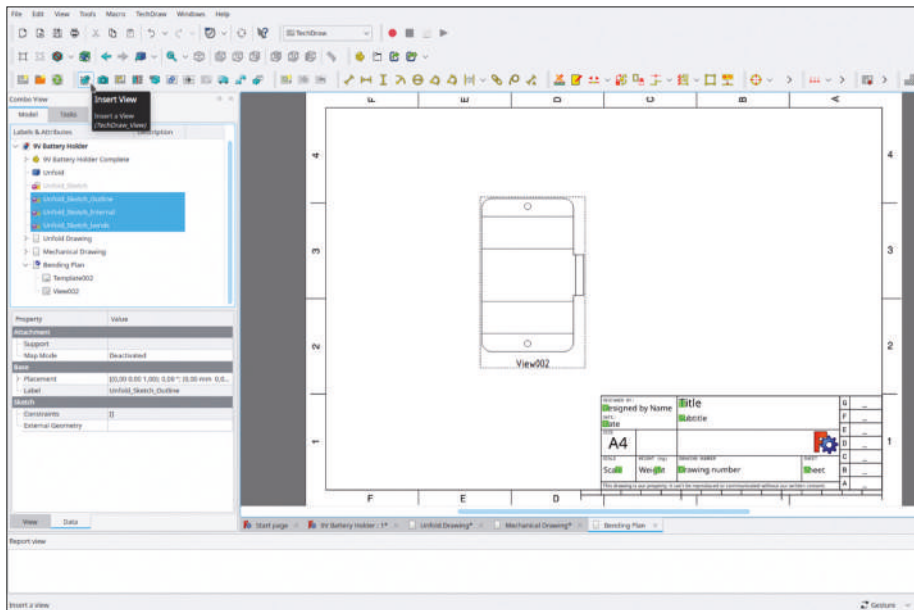

Figure 5-45
2. In the tree view, mark the sketches 'Unfold\_Sketch\_Outline', 'Unfold\_Sketch\_Internal' and 'Unfold\_Sketch\_Bends'. Then, click the 'Add view' tool button. (Figure 5-45). When the components in the view are not aligned properly, delete the view again, and sync the placement parameters of the different unfold sketches.